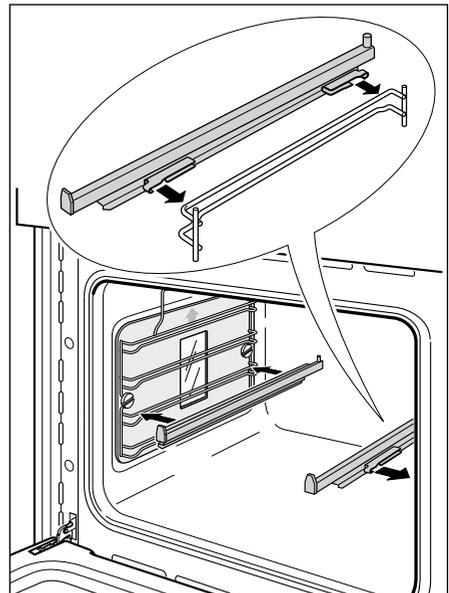

Fig.20 Refitting the sliding shelf supports
- 2 Fit the sliding shelf support onto the top wire of a rack and press (Fig. 20). You will hear a click as the safety locks clip over the wire.
- The slides so that they run out towards the oven door, as shown in Fig. 20